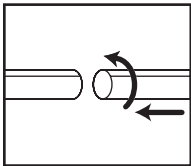

FIGURE 4
7. Attach the extension wands to the accessory end of the hose. Twist slightly to tighten the connection. **FIGURE 4.**
8. Attach one of the cleaning accessories (depending on your cleaning requirements) on the extension wands. Twist slightly to tighten the connection. **FIGURE 4.**